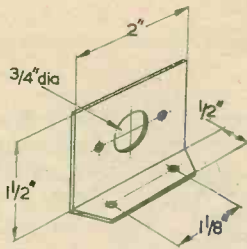

Fig. 6. The bracket for the power output socket
- Material for bracket (Fig. 6)
If the power output socket is to be fitted it may be either mounted on a small L-shaped bracket as depicted in Fig. 6 or it may be built into the chassis rear flange. Fuses could also be provided, but these would be superfluous if a fused mains plug were used.